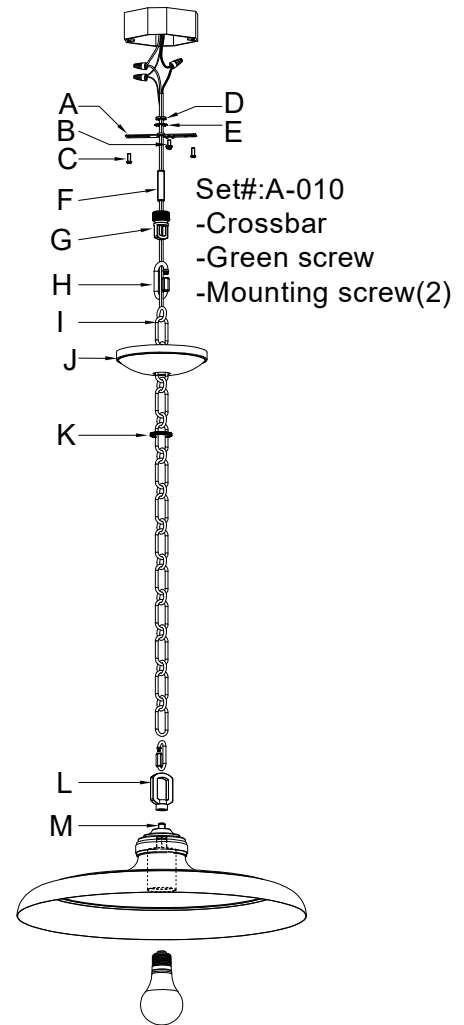

Fig.2
#### CONNECTING THE WIRES (Fig.2)
9. Connect the electrical wires as shown in Fig.2, making sure that all wire connectors are secured. If your junction box has a ground wire (green or bare copper), connect fixture's ground wire to it. Otherwise, connect fixture's ground wire directly to crossbar (A) using green screw (B) provided.